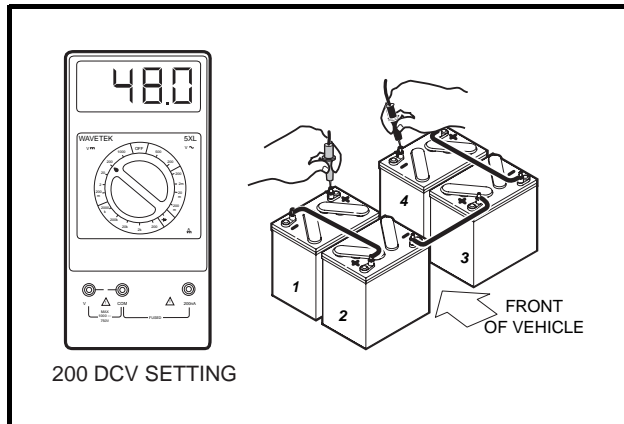

Figure 11-7 Battery Test
1. With batteries connected and using a multimeter set to 200 volts DC, place red (+) probe on the positive (+) post of battery no. 1 and the black (–) probe on the negative (–) post of battery no. 4 (**Figure 11-7, Page 11-15**). The multimeter should indicate at least 48 volts with the batteries fully charged. If not, check for loose battery connections or a battery installed in reverse polarity. Refer to Section 13 – Batteries for further details on battery testing.